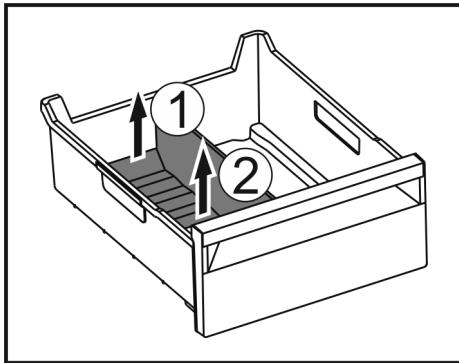

Fig. 130
- ▶ Lift the rear part of the ice compartment divider. Fig. 130 (1)
- ▶ Remove the ice compartment divider upwards. Fig. 130 (2)